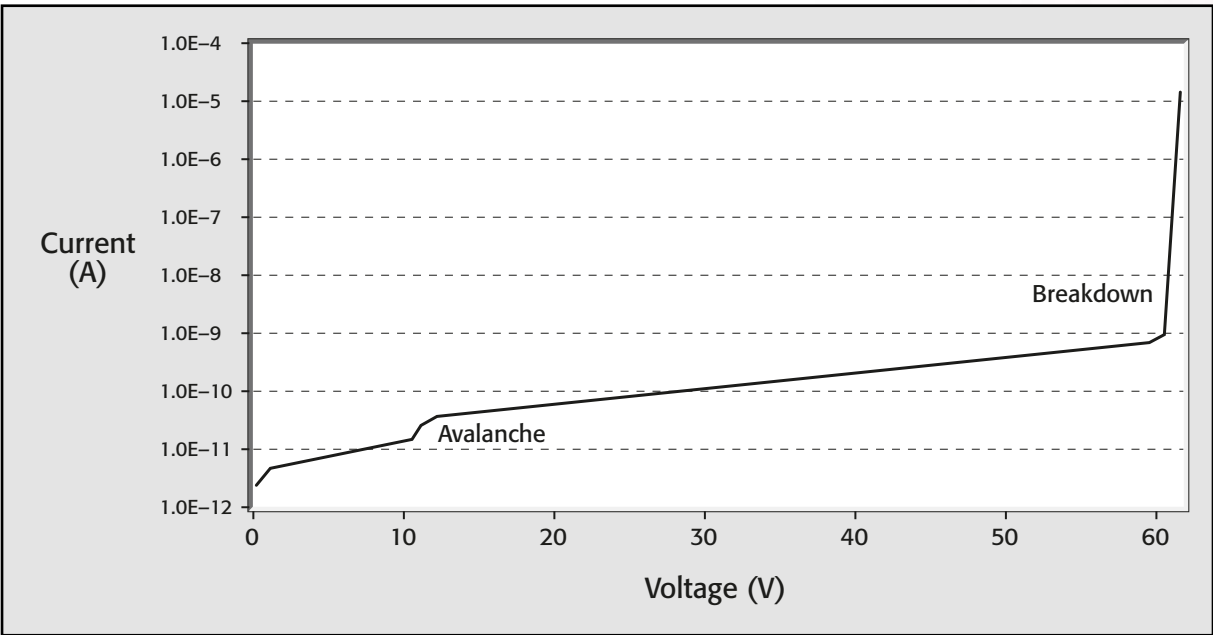

Figure 21: Current vs. Reverse Voltage Sweep of an InGaAs APD
**Figure 21** shows a current vs. reverse voltage sweep of an InGaAs APD, generated by the Model 6430 SourceMeter Instrument. Note the wide range of current measurements. The avalanche region becomes more pronounced with increasing light. The breakdown voltage will cause the current to flow freely since electron-hole pairs will form without the need for light striking the diode to generate current.